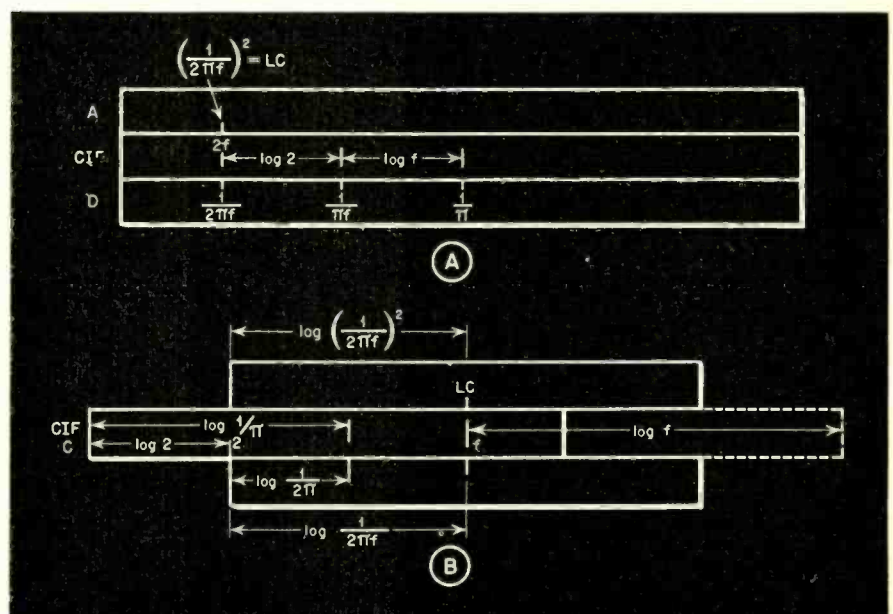

Fig. 7. In (A) and (B) alternative methods of finding LC products are shown
To find the *LC* product for any frequency, set 2 on *C* to the left index of *D*; opposite *f* on *CIF* read *LC* product on *A*. Or, line up indices of slide in stock at both ends, the slide being entirely within the rule. Mentally multiply *f* by 2, opposite 2*f* on *CIF* find *LC* product on *A*. The explanation of this can best be derived from Figs. 7(A) and 7(B). As an example, let it be required to find the *LC* product to tune to 45 mc. Set 2 on *C* to left index of *D*; opposite 45 on *CIF*, find 125 on *A*. The answer is 12.5 in micromicrofarads and microhenries.